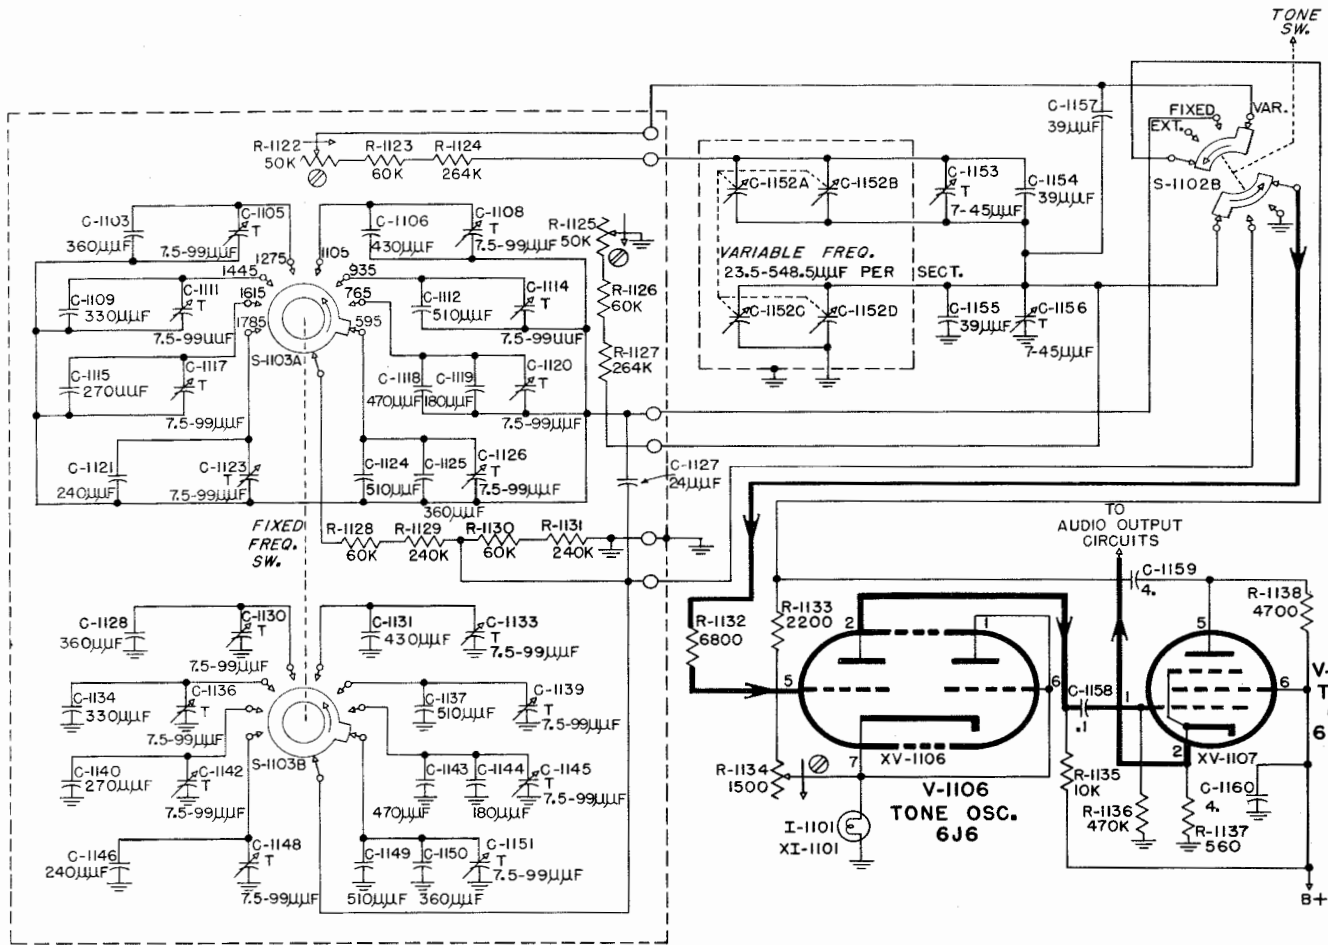

Figure 2-38. Tone Oscillator Circuits V-1106 and V-1107, Simplified Schematic Diagram
(4) TONE OSCILLATOR CIRCUITS, V-1106 AND V-1107 (KY-62/FRR-24). (See Figure 2-38).—The Tone oscillator consists of a two-stage feedback amplifier employing V-1106, a type 6J6 tube, and V-1107, a type 6AQ5 tube, in conjunction with a resistance-capacity network. A portion of the output of the tone oscillator V-1107 is fed back through potentiometer R-1134 to the cathode of V-1106. This degenerative network is not frequency sensitive but lamp I-1101 employed in the cathode is amplitude sensitive and acts to stabilize the oscillator at a particular voltage level. The phase-determining network in the grid circuit of V-1106, as selected by the front-panel mounted Tone switch and Fixed Frequency switch, fixes the frequency at which the oscillator will operate. In the variable position resistors R-1122, R-1123 and R-1124 are used in series with capacitors C-1152A, C-1152B, C-1153 and C-1154 to form a series resistor-capacity network. Capacitors C-1152C, C-1152D, C-1155 and C-1156 are used in parallel with resistors R-1127, R-1126 and R-1125 to form a parallel resistor-capacity network. The midpoint of these two networks is applied to the grid of